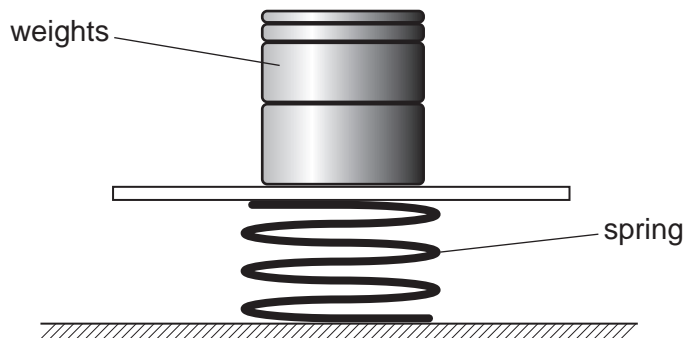

Fig. 2.1
- 4 A spring is placed on a flat surface and different weights are placed on it, as shown in Fig. 2.1.